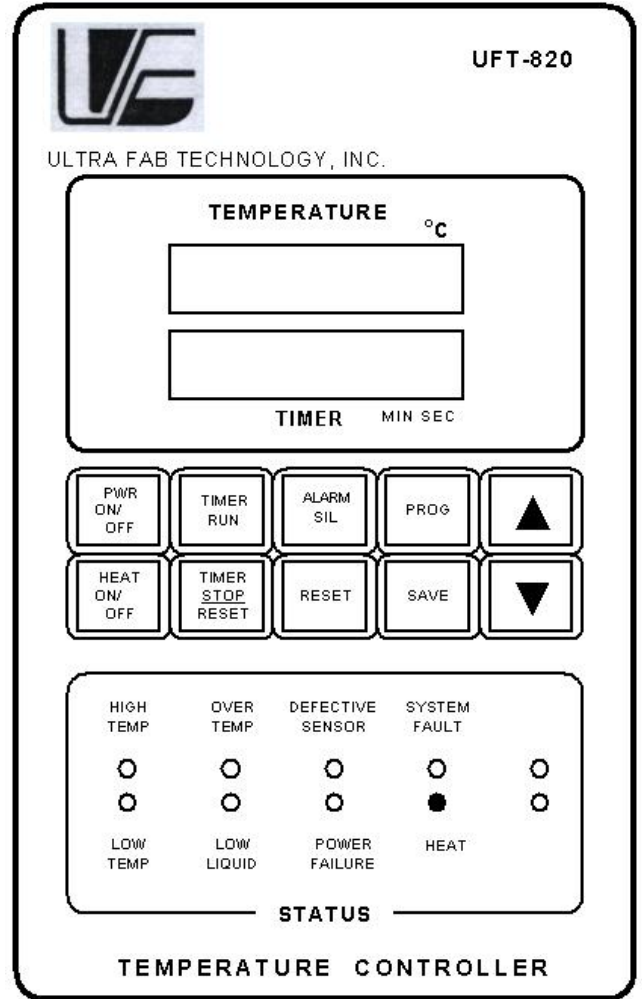

Figure 3
UFT-820 TEMPERATURE CONTROLLER (Figure 3)
POWER ON/OFF	Turns on/off the master power for the temperature controller (Figure3).
UFT-48-8 DUMP RINSER (Figure 3)
9.4.1 Add 100 ml hydrogen peroxide to the heated sulfuric acid bath, which is kept at 120°C to activate (spike) the piranha (see Figure 3 for more details on the temperature controller display). Note: always have the poly gloves on when handling this beaker.
9.5.2 Press RESET (if status light is blinking), then START button to activate the dump rinse cycle (see Figure 3 for keypad schematic).
10.5 Status Indicators on Temperature Control Panel (Figure 3):